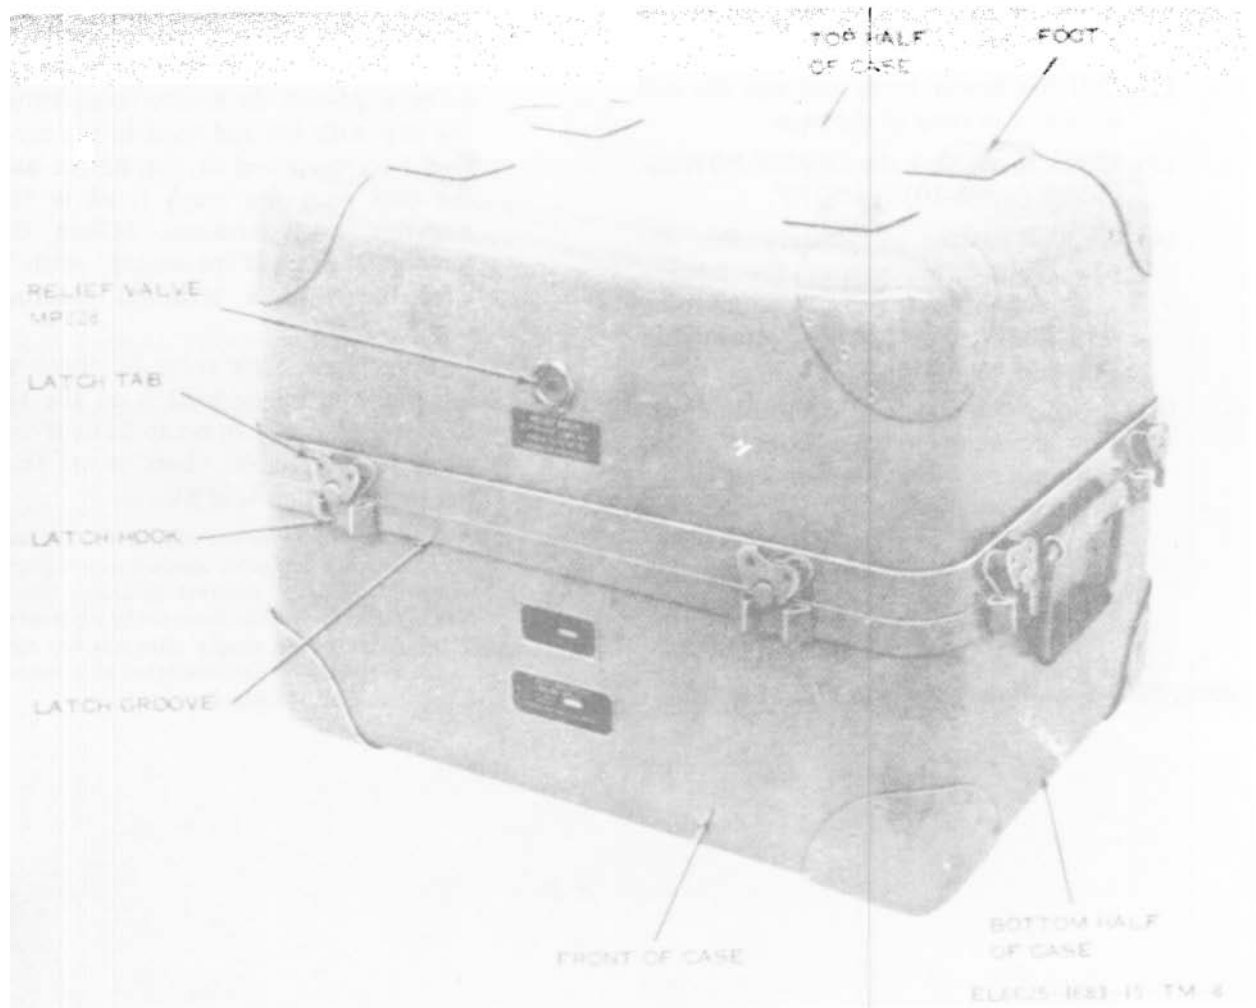

Figure 2-2. Test Facilities Kit MK-980/PPS-5, top half of case in place and latched.
a. Press and release the button on the relief valve (fig. 2-2).
c. If the equipment has been used or reconditioned, check to see whether it has been changed by a modification work order (MWO). If the equipment has been modified, the MWO number will appear on the front (fig. 2-2) near the nomenclature plate. If modified, see that any
After Test Facilities Kit MK-980/PPS-5 has been opened (para 2-2a through c), stand the bottom half of its front side (fig. 2-2) so that Electrical Test Panel SB-3004/PPS-5 (test panel) is upright (fig. 9-1). The test panel can then be connected to 115 volts ac,